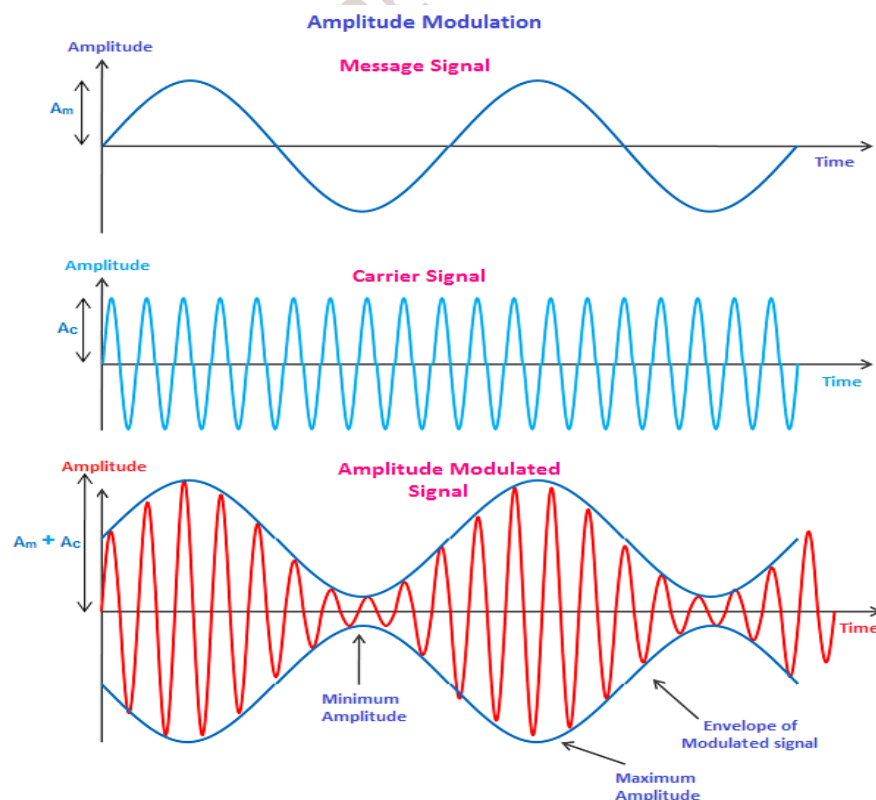

Fig: 4.8 Waveforms of Amplitude modulation
1. *Amplitude modulation (AM)*
- Figure 4.8 shows the high frequency carrier signal, modulating signal and the modulated signal.
- It can be clearly seen from the figure 4.8 that the modulating signal seems to be superimposed on the carrier signal. The amplitude variations in the peak values of the carrier signal exactly replicate the modulating signal at different points in time which is known as an envelope.
- The total variation is frequency of F.M. wave from the lowest to the highest is termed as carrier swing (CS), i.e., $CS = 2 \times \text{frequency deviation in Centre frequency}$ or $CS = 2 \Delta f$.